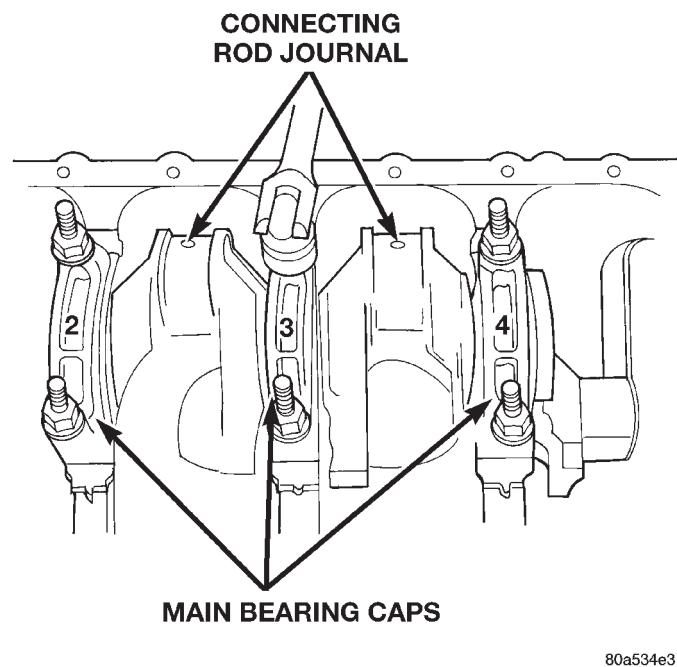

Fig. 49 Removing Main Bearing Caps and Lower Inserts
- (6) Remove only one main bearing cap and lower insert at a time (Fig. 49).